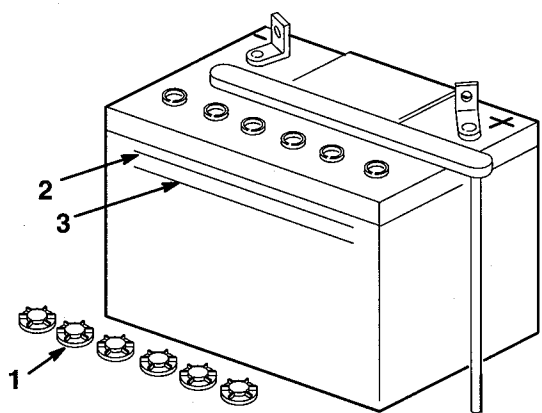

Figure 19
2. Look at the side of the battery. The electrolyte must be up to the "UPPER" line (Fig. 19). Do not allow the electrolyte to get below the "LOWER" line (Fig. 19).
2. Unscrew the filler caps (Fig. 19).
3. Slowly pour distilled water into each battery cell until the level is up to the "UPPER" line (Fig. 19) on the battery case.